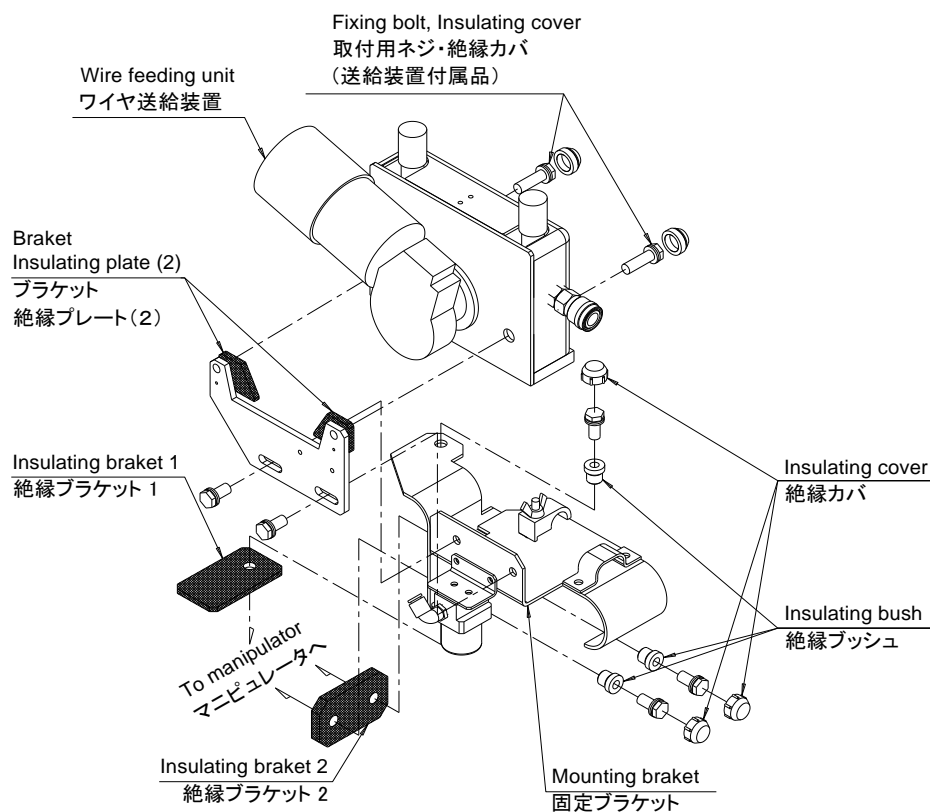
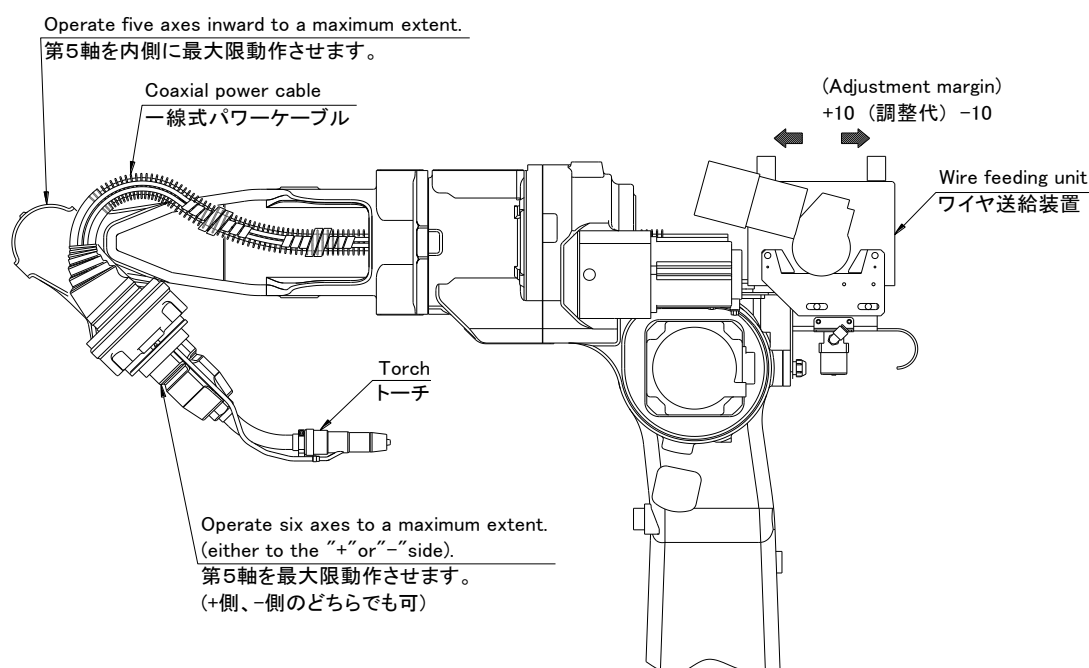

Fig.5.1 Attaching to NB15 manipulator (procedure(1)~(3))
Fig.5.2 Attaching to NB15 manipulator (procedure (4)~(6))
For the configuration of the wire supply unit and the lock bracket, see Figure 5.1.
- (1) Attach the bracket and insulating plate 2 to the wire supply unit as shown in Figure 5.1.
- (2) Attach the lock bracket, insulation plate 1 (using hexagon head bolt: M8x30 x 1) and insulating plate 2 (using hexagon head bolt; M8x35 x 2) to the manipulator as shown in Figure 5.1. Be sure to attach insulating plates 1 and 2 by sandwiching them between the manipulator and the mounting bracket. Also be sure to attach the insulating bush to the hexagon head bolts. After completion of attachment, attach the insulating cover to the hexagon head bolts.
- (3) Fix the mounting bracket and lock bracket using 2 hexagon head bolt (M8x20) and attach the wire supply unit to the manipulator. You can adjust the attachment position in the front-back direction. To do this, loosen the hexagon head bolt to enable the unit to slide.
- (4) Attach the coaxial power cable to the wire supply unit. Remove the guide adaptor from the coaxial power cable and reattach the guide adaptor (3) (ϕ 1.2~ ϕ 1.6) provided with the W/F lock bracket.
- (5) Attach the coaxial power cable to the wire supply unit. Remove the guide adaptor from the coaxial power cable and After attaching the coaxial power cable to the wire supply unit, operate the manipulator to the following position as shown in Figure 5.2:attach the guide adaptor (3) (ϕ 1.2~ ϕ 1.6) provided with the W/F lock bracket.
- (6) As shown in Figure 5.2, adjust the slide plate position so that the coaxial power cable does not hit the robot arm in the position of (4), and then fix the slide plate.